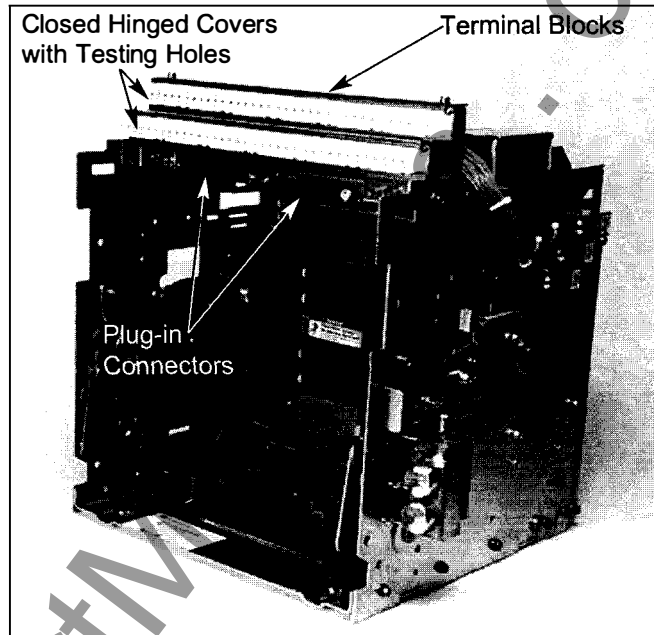

Figure 3-24 Typical Cassette Mounted Secondary Wiring
**Drawout type circuit breakers:** Compatible secondary plug-in connectors are mounted on the top front portion of the drawout cassette (Figure 3-24). These connectors match and plug into the circuit breaker mounted connectors. Contact points are wired from the cassette's plug-in connectors to cassette mounted terminal blocks. The terminal blocks are also mounted on the top front portion of the cassette. The secondary terminals have finger-proof hinged covers with small holes for probe testing.
(1) Without Terminal Block
(2) With Terminal Block